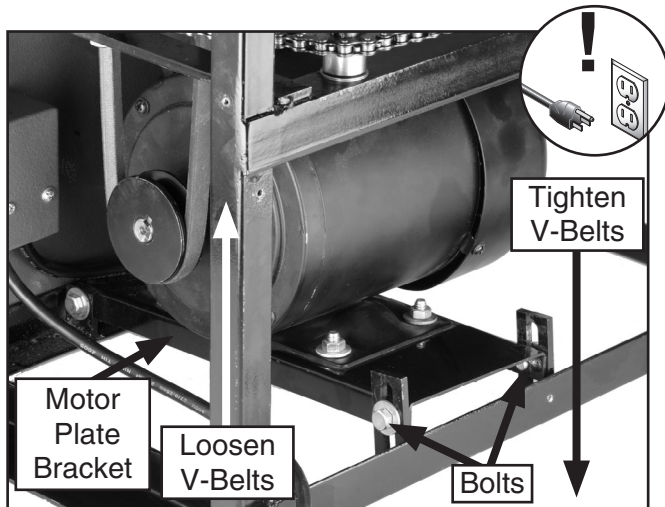

Figure 25. V-belt tension controls.
3. Loosen the motor mount bolts and raise or lower the motor bracket, as shown in **Figure 25**, to loosen or tighten the V-belt.